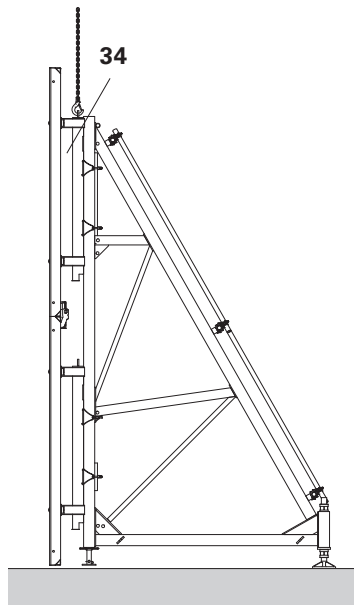

Fig. C2.01
Always fasten to the Connector SB-1, 2 (34). (Fig. C2.01)